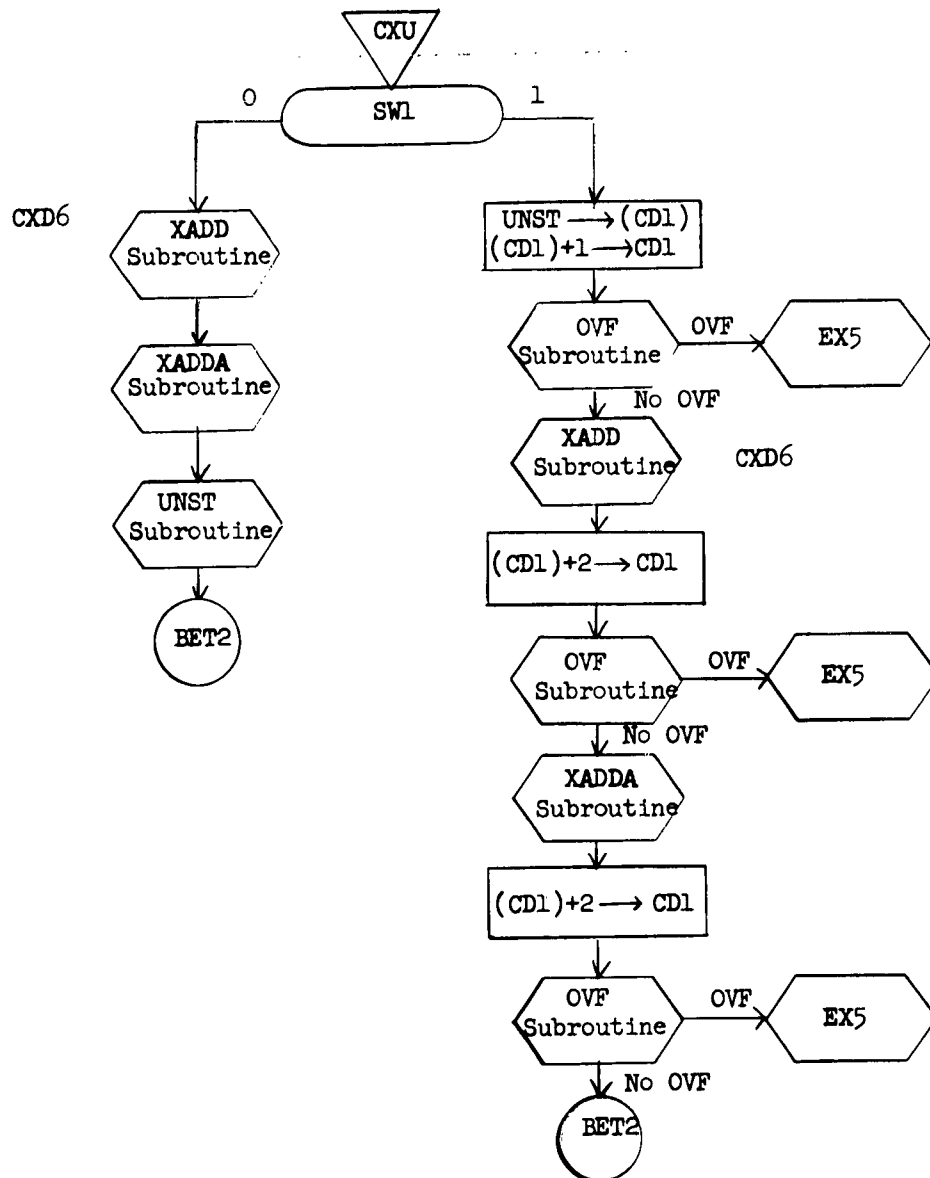

Figure 7.15 CXU
7.2.3.12 CXU UNSNAP Command (Figure 7.15)